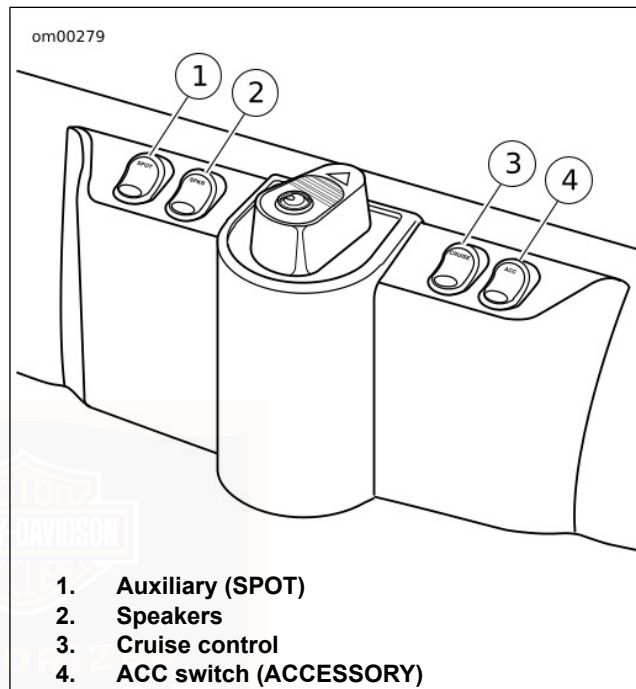

Figure 16. Switch Indicators
See Figure 16. The accessory (ACC) rocker switch (4) is located in front of the rider on the inner fairing cap. Rock the switch rearward to illuminate the LED in the switch and turn the accessories ON.
See Figure 16. Use the auxiliary lamp switch (1) to turn ON the auxiliary lamps as required.